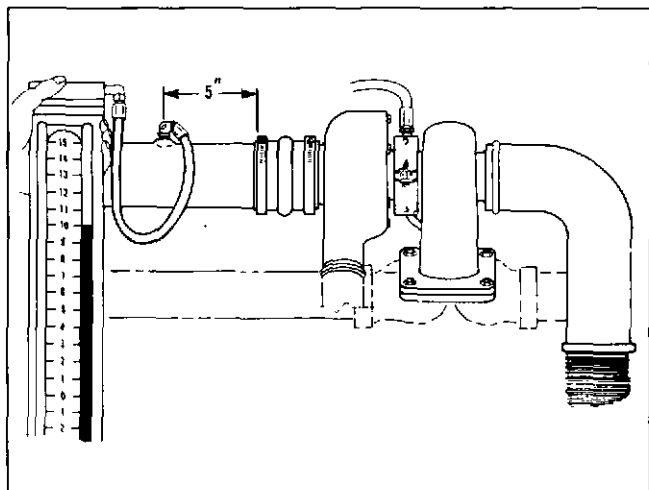

Fig. 1-7, (TM6). Checking the air inlet restriction
1. Check the inlet air restriction by attaching a vacuum gauge or water manometer in the air intake piping. The adapter must be at a right angle to the air flow and one pipe diameter upstream from the turbocharger, Fig. 1-7.